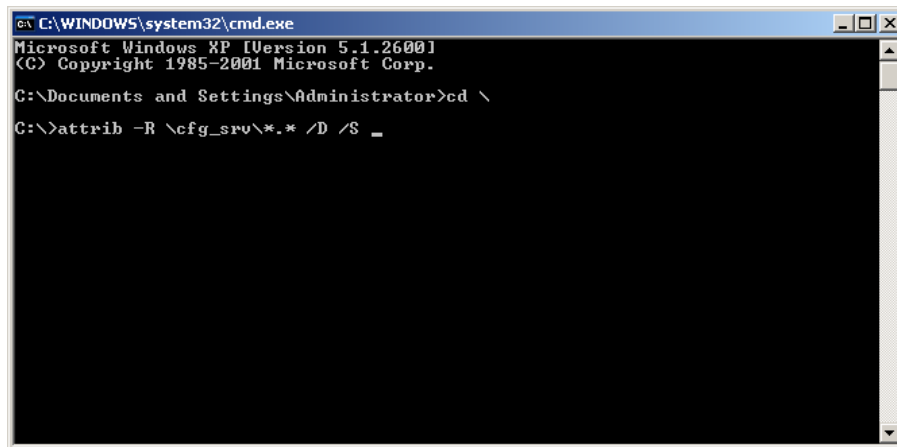

Figure 1-199. Change Attributes in a DOS Window
1. Open a command window from the desktop by selecting **Start** and **Run**. In the Open window, type **cmd** and press **OK**. A Command Window is displayed (Figure 1-199).